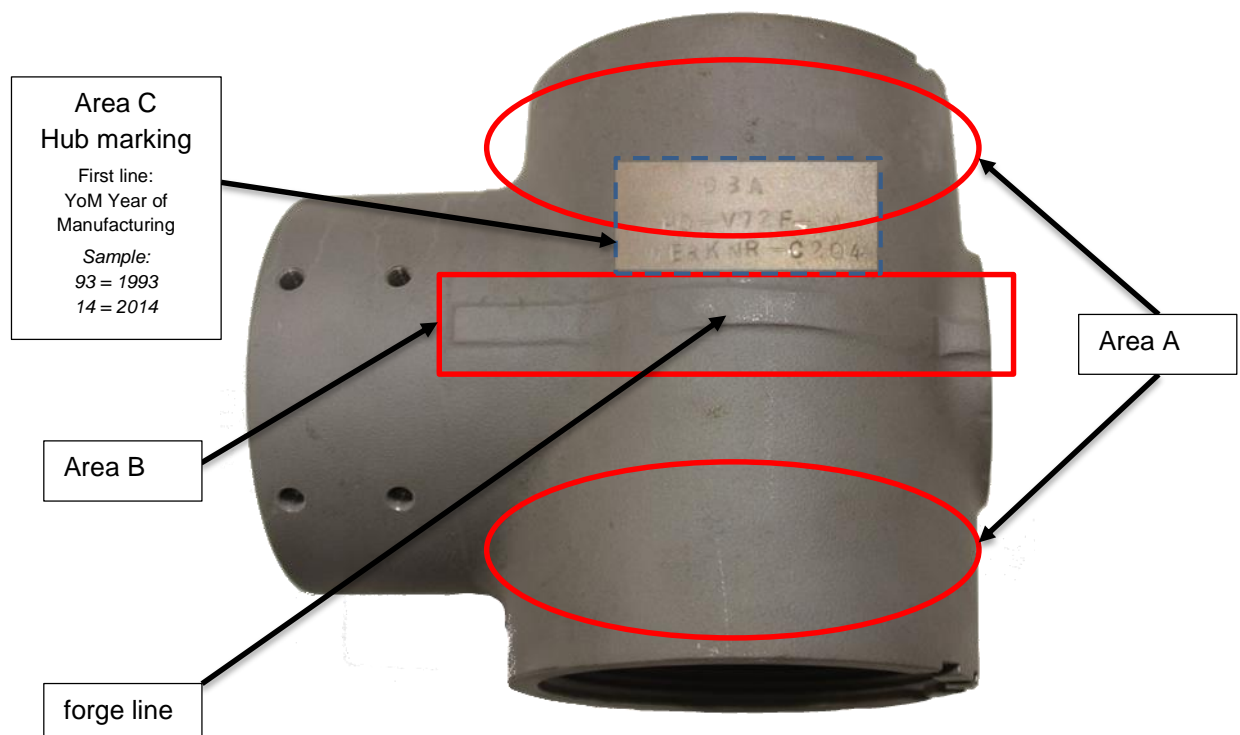

Figure 1: HO-V72() hub sample
- Visually inspect the hub for cracks. Especially inspect the blade sockets (area A, see figure 1). If you have a hub type with forge line (manly manufactured bevor 2005) inspect this area carefully (area B, see figure 1). If cracks were found the propeller must be send for investigation to Hoffmann Propeller further service of this propeller is not allowed.